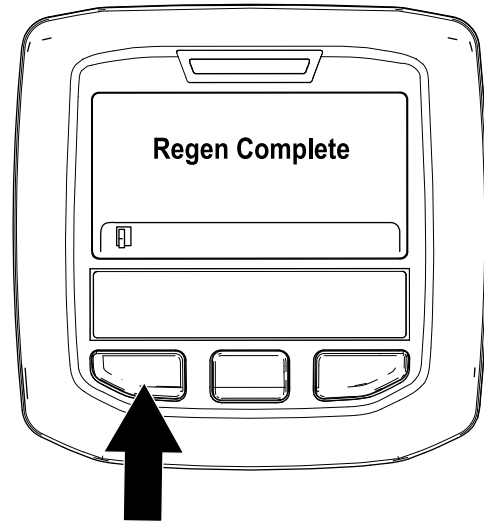

Figure 56
9. The parked regeneration is complete when the “Regen Complete” message displays in the InfoCenter. Press the left button to exit to the home screen (Figure 56).